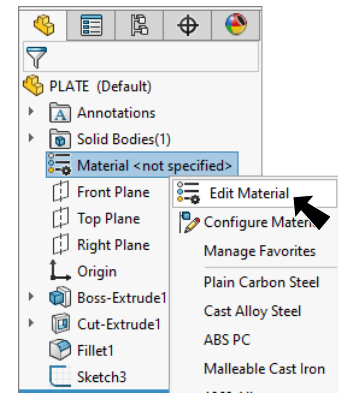

Fig. 14
- Step 2. **Right click** **Material**  in the Feature Manager and click **Edit Material**, Fig. 14.